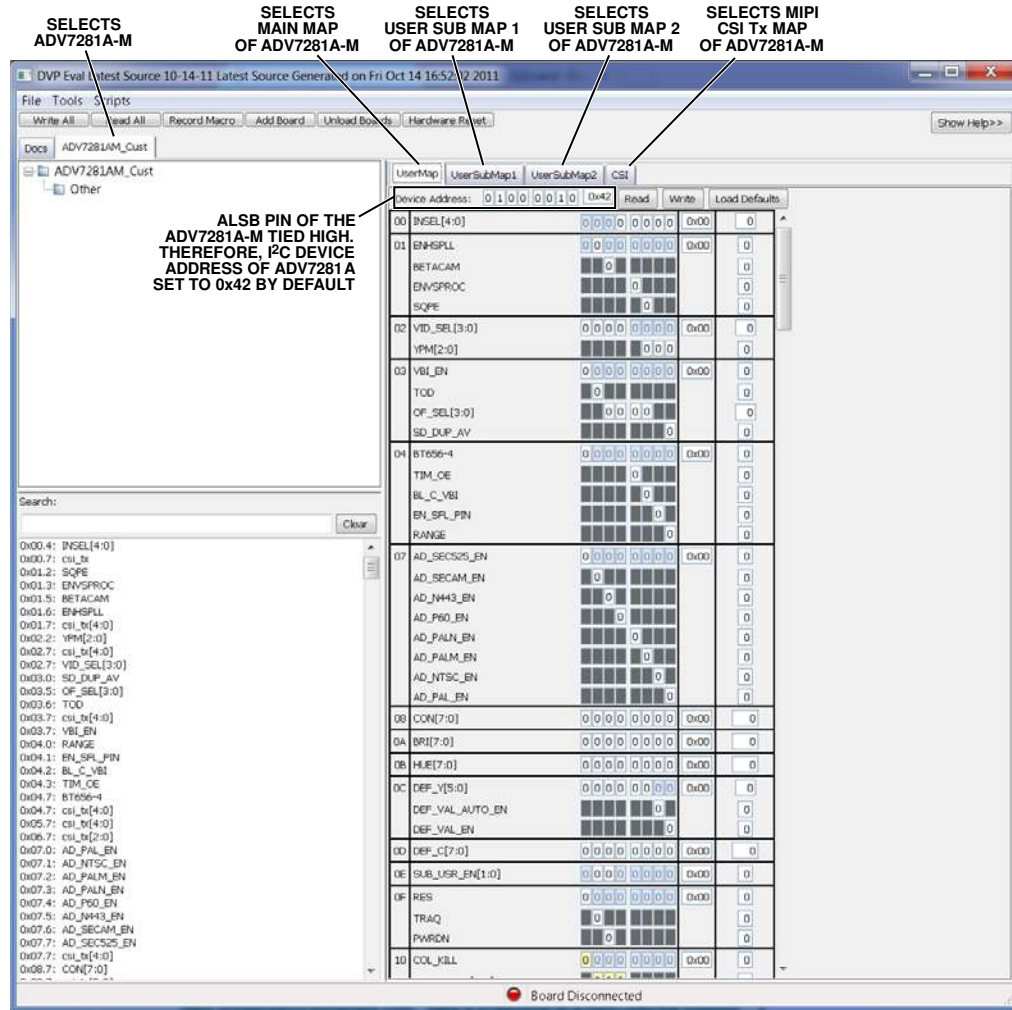

Figure 7. DVP Eval Software After Connecting the ADV7281A-M Evaluation Board
4. Click the **Load** button. A window similar to Figure 7 appears.